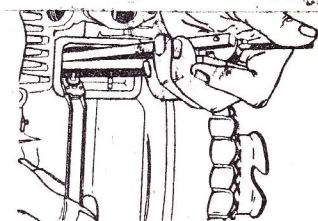

Fig. 1. Removing Valve Keeper ("C" lockwasher)
1. Remove "C" lockwasher from valve stem by using two screwdrivers or as shown in Figure 1 with Clinton tool No. TL-925 or TL-974.